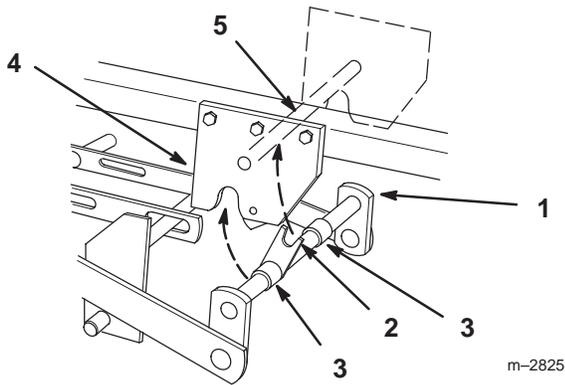

Figure 6
7. Rotate front mounting shaft so fork faces up and align so spacers are between mid-mount hitch plates (Fig. 6).
- Lift mower with attachment lift and guide fork to capture hitch rod (Fig. 6). Close mid-mount hitch lock handle.